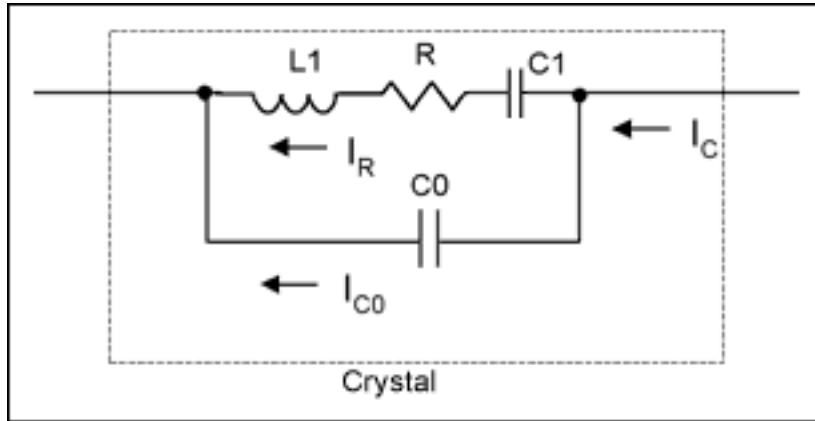

Figure 2. Circuit diagram of a crystal Equivalent.
**Figure 2** illustrates a circuit that functions equivalent to a crystal[3].
The ESR  $R$ , shown in Figure 2, of a crystal causes the crystal to consume power. If the RMS (root of mean square) current going through  $R$  is  $I_R$ , then we can obtain the crystal's power level by;